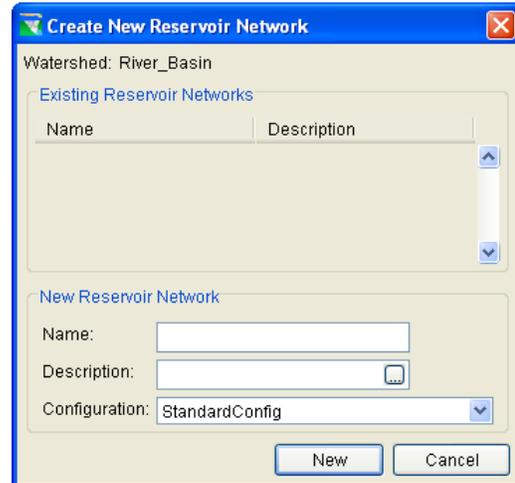

Figure 14. Create New Reservoir Network
1. **Create/Open a Reservoir Network.** From the **Network** menu, select **New**. The **Create New Reservoir Network** window will appear (Figure 14). Specify a name and description for the network. Then, select the Configuration on which this network will be based and click **New** [Section 8.2].